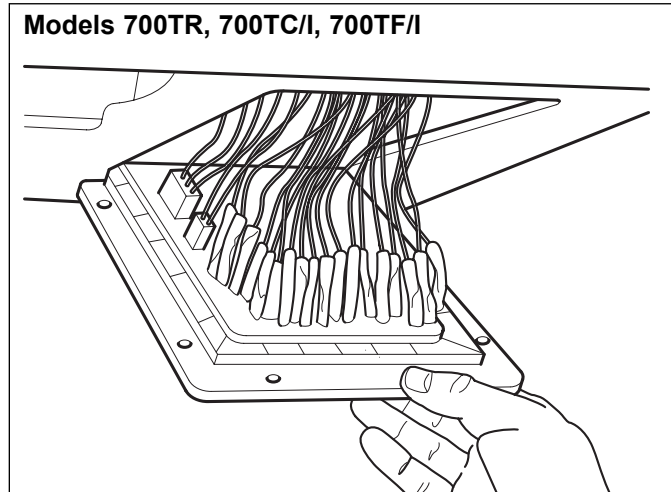

Figure 2-13. Control Board Location
The control board is located in the ceiling of the upper drawer compartment (Figure 2-13).
2. Remove eight screws from the microprocessor cover and let the cover drop down to expose the control board (Figure 2-13).